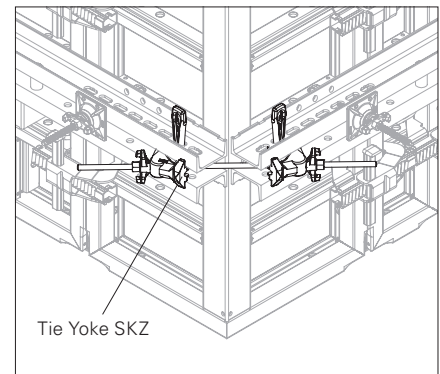

Fig. B2.07c
The outside corner can also be implemented with the Tie Yoke SKZ (article no. 024210) instead of the waler stop (86) and anchor tie yoke (87). For assembly, see the Instructions for Assembly and Use for VARIO GT 24 Girder Wall Formwork. (Fig. B2.07c)